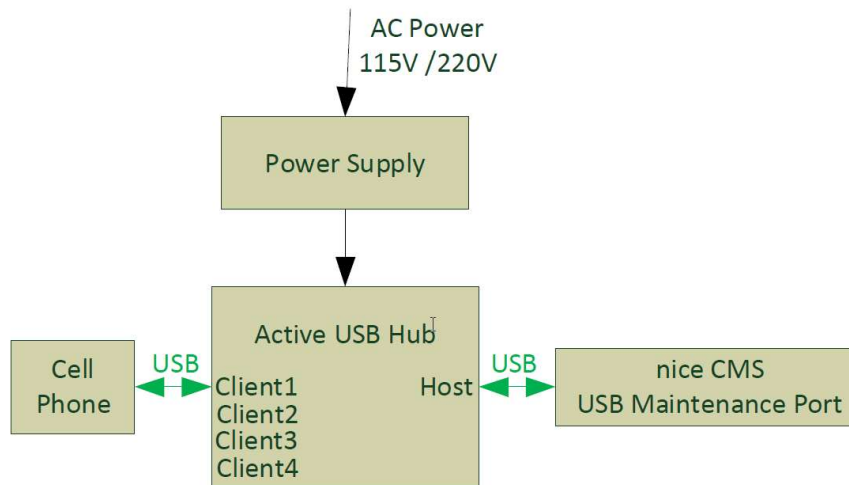

Figure 15: USB hub setup for DRM update
3. Cell phone tethering via USB hub (Figure 15).